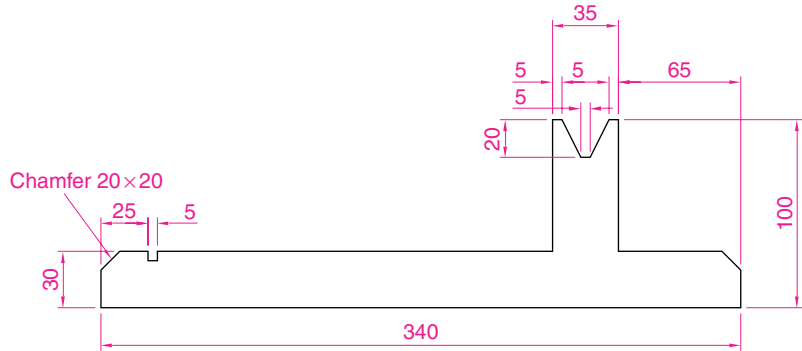

Fig. 14.10 Third example – outline for solid of revolution
3. In what is now the **Right** viewport construct a pline outline to the dimensions in Fig. 14.10.